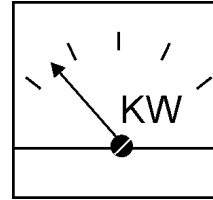

Figure 32. Kilowatt Meter
12. The wattmeter (Figure 32) will indicate zero watts with no load applied. When a load is applied, this meter will indicate the output power of the generator with respect to the applied load.